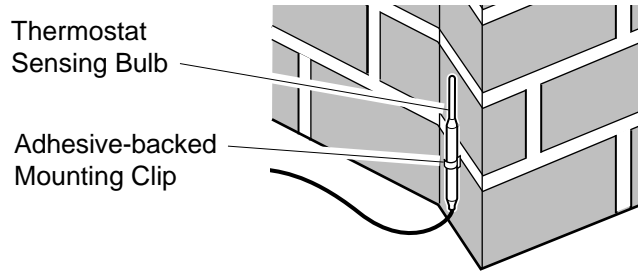

Figure 37 - Locating Thermostat Sensing Bulb on Masonry Fireplace
4. The thermostat sensing bulb may be located to the lower right front side of fireplace. Determine location of sensing bulb, but do not mount sensing bulb until step 5. If you have a masonry fireplace, see Figure 37 on page 33 for location.